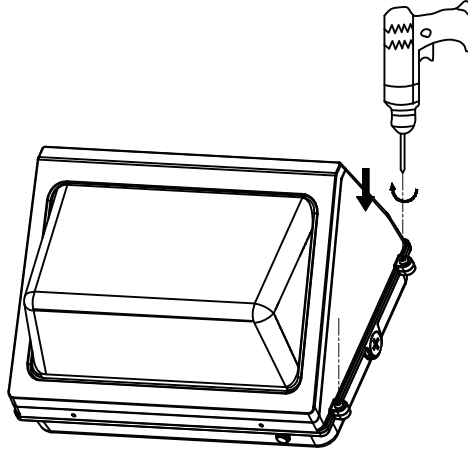

Fig6
5. Lock the housing by tightening the 2 side screws. (Fig 6)